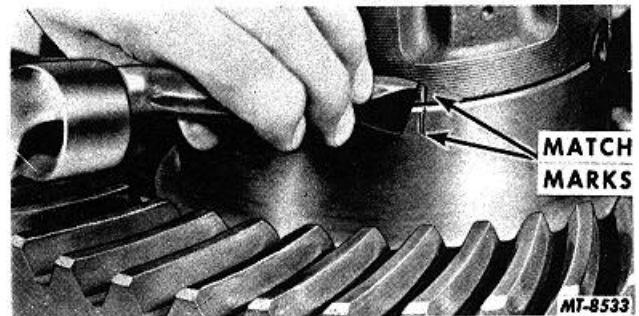

Fig. 12 Marking Differential Case Halves
1. Match mark differential case halves, Fig. 12, with a punch for correct alignment on reassembly.